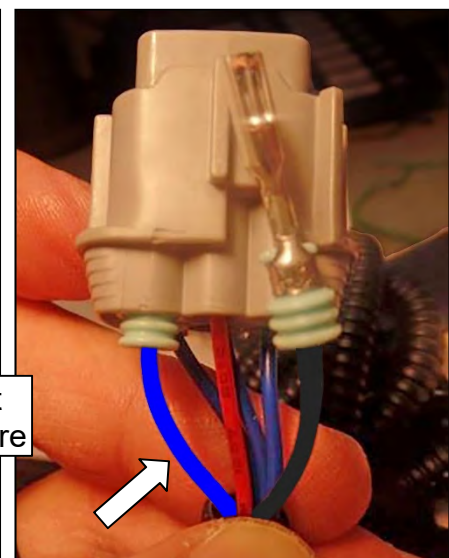

Figure 9
**NOTE:** The color of the **blue** wire in Figure 9 is enhanced for easier viewing. Normally, it is the same shade of **blue** as the other **blue** wires.